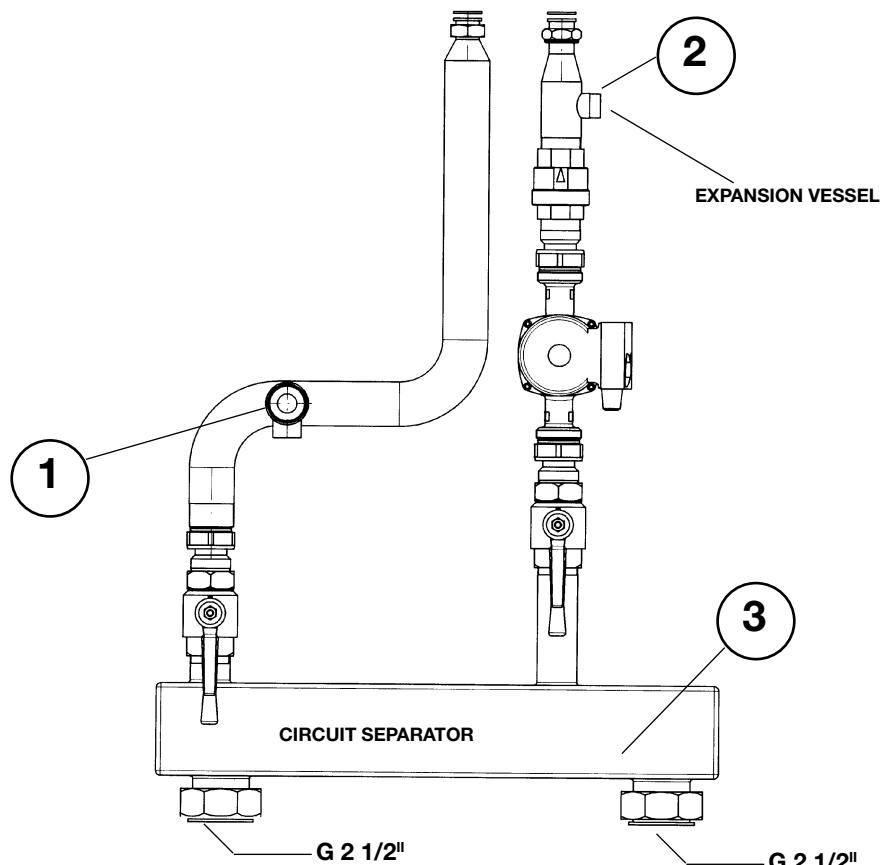

Figure 3: Installing components
Install the safety valve, provided in the kit, to its fitting (ref. 1 Figure 3) with the G 3/4" gasket between the adapter and the fitting itself. Mount the safety valve outlet to a siphon drain pipe.
The expansion vessel (not supplied with the kit) must be dimensioned for the overall capacity of the installation in the normal way, and connected to the check valve (ref. 2 Figure 3).
The circuit separator supplied with the kit separates the heating plant circulation so as to keep a constant flow of water in the boiler independently of losses of load (ref. 3 Figure 3).